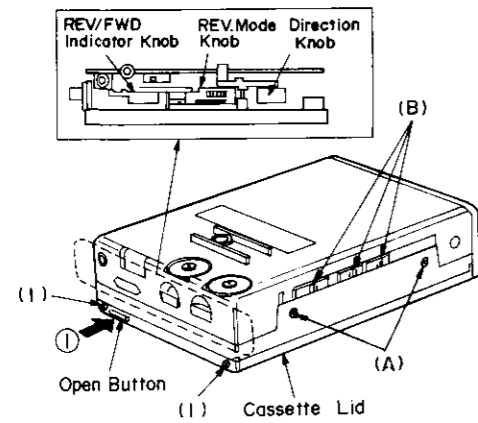

Fig. 1
1. Remove the screw (A) (1.4 × 3.5)mm × 2. (Fig. 1)
2. Remove the knob (B) × 3 with ⊖ screwdriver. (Fig. 1)